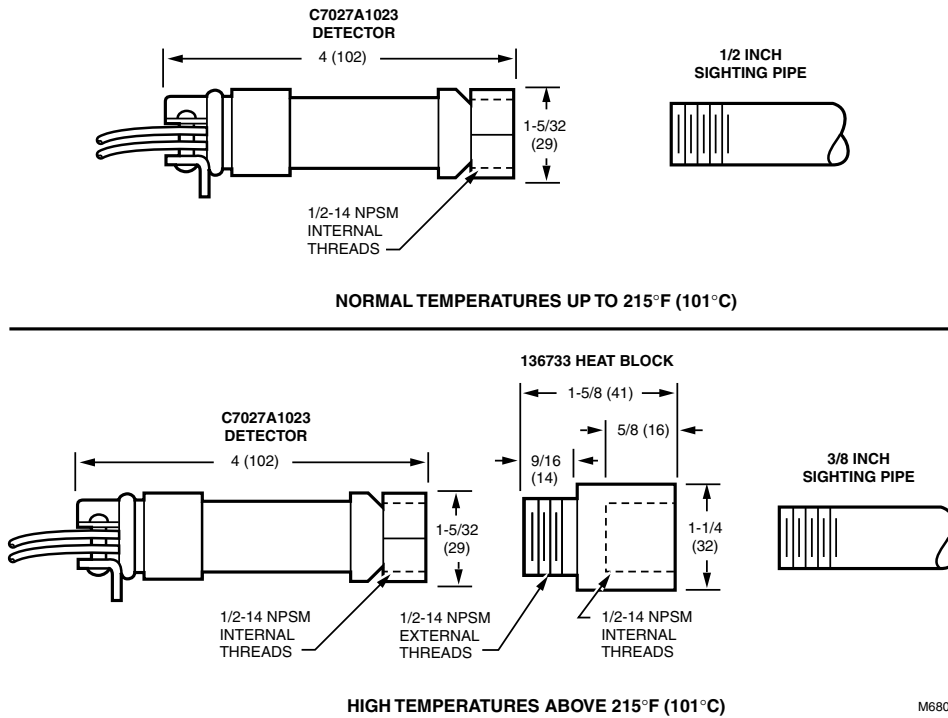

Fig. 1. Mounting dimensions for replacing Honeywell C7027A and Fireye UV-1/UV-1A Flame Detectors, in in. (mm).
- 2 Refer to Fig. 1 and 2 for mounting dimensions and arrangements.
- 8 Screw the C7027A1023 Detector onto the sight pipe, heat block, or bushing, as applicable. See Fig. 1 or 2.